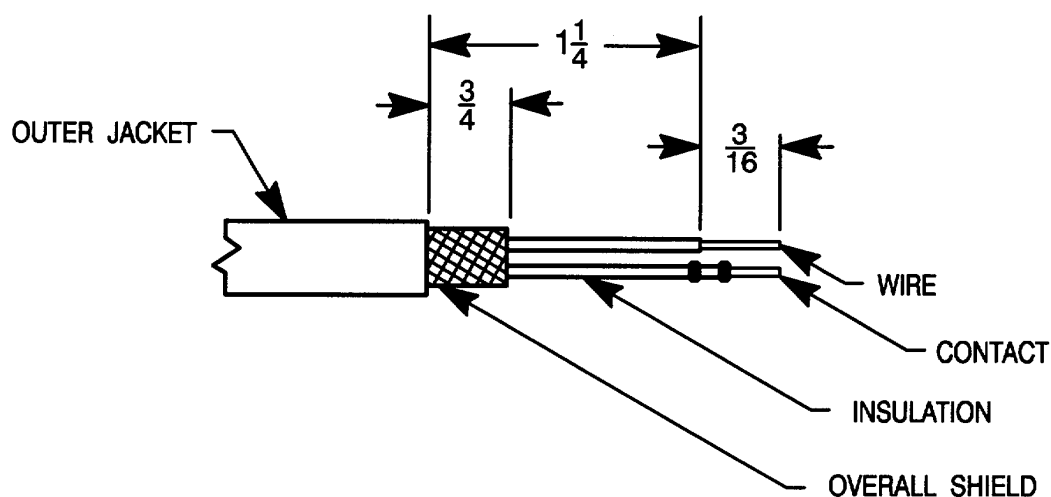

FIGURE 1. CABLE PREPARATION
9. PLACE BACKSHELL OVER CABLE PRIOR TO INSERTING PINS. REFER TO FIGURE 1 FOR CABLE STRIP LENGTHS. CRIMP PINS WITH M22520/2-01 TOOL WITH M22520/2-10 TURRET. REF MIL-C-22520.